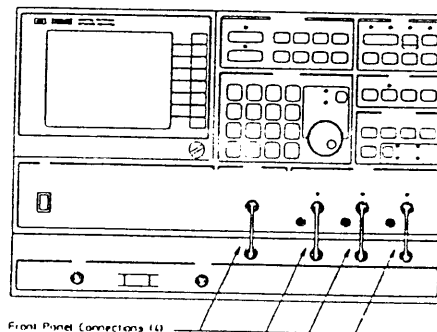

Figure 5-3. Front panel cable Installation
3. Install the four N-connector 50 Ω cables (HP part number 8120-4387) between the front panels of the two instruments as shown in figure 5-3.